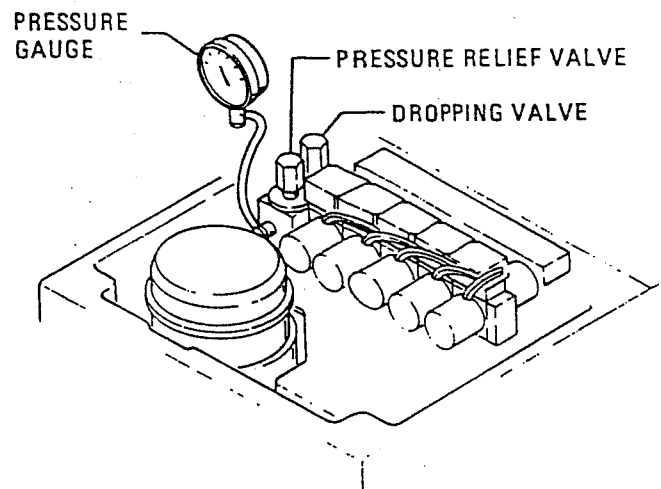

Figure 1-27.
1. Remove the blind cap and attach a hydraulic pressure gauge to the main oil galley using 6mm plumbing bolt. See figure 1-27.
1. Attach a hydraulic pressure gauge to the main oil galley using 6mm plumbing bolt. See figure 1-27.
1. Attach the pressure gauge onto the main oil galley pictured in figure 1-27.